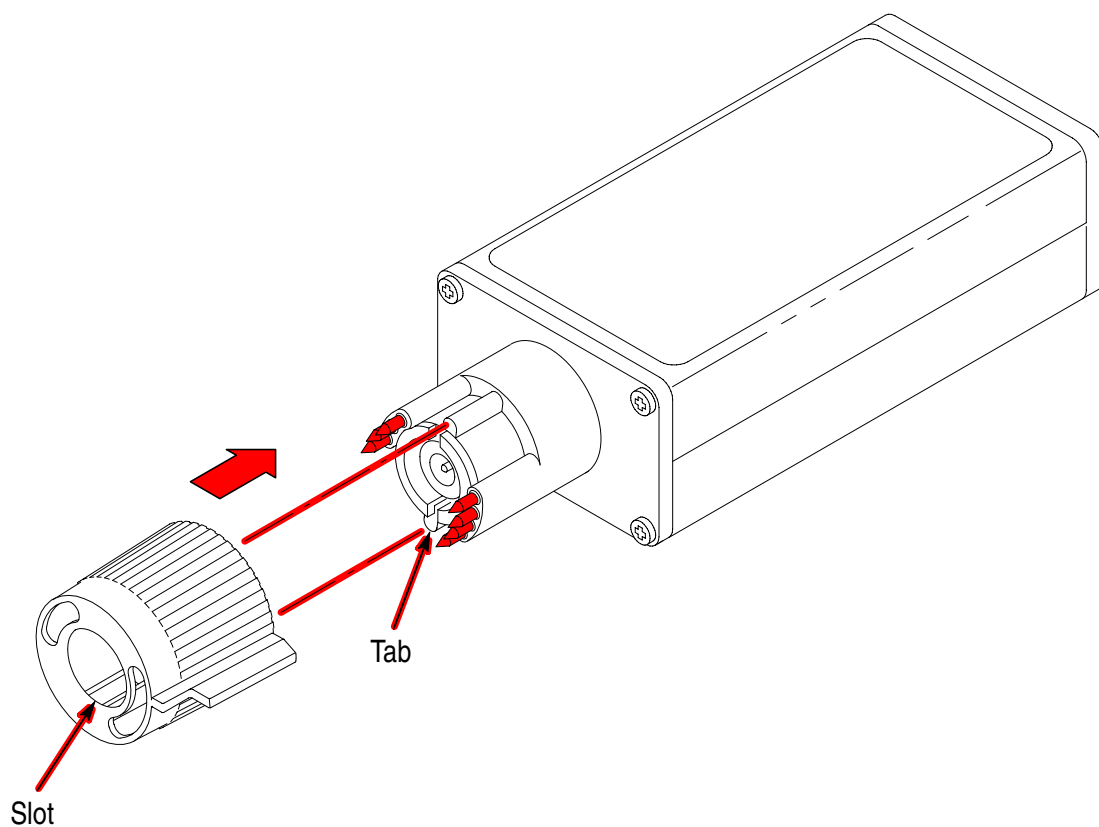

Figure 15: Replacing the TekProbe collar
2. To replace the collar, align the smaller group of pins with the smaller of the two holes in the interface collar and align the tabs with the slots. Gently press the two pieces together. See Figure 15.